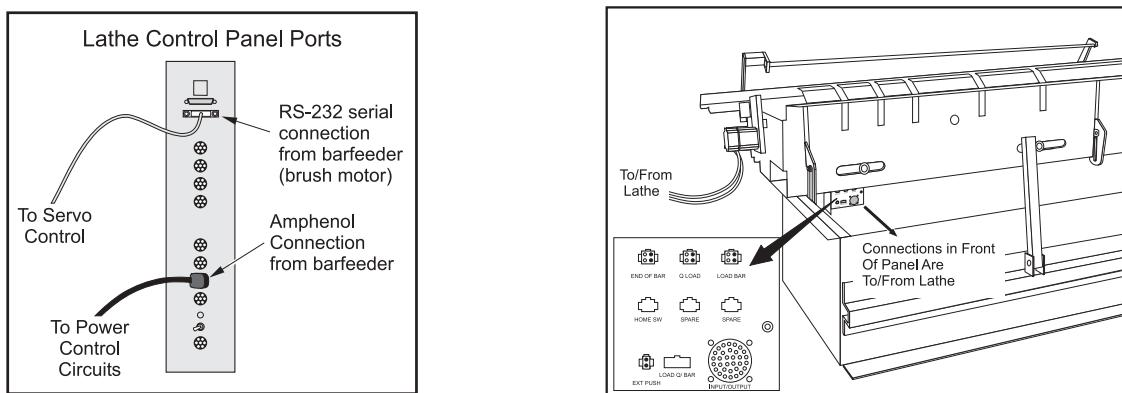

Figure 2.3 Barfeeder and lathe connections
3. Connect the amphenol connector (**Brush motor** barfeeders have a serial plug also) from the Barfeeder to the auxiliary ports of the lathe control (Refer to Figure 2.3). Power up the lathe.